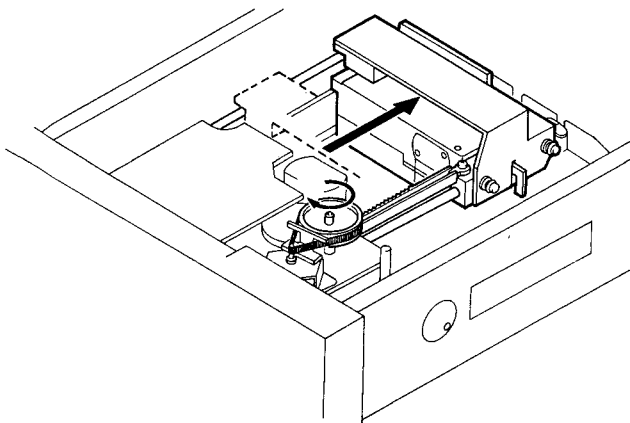

Fig. 2.1
- (1) Place the Compact Disc Player upside down on the work stand and remove the Bottom Cover by unfastening 10 screws.
- (2) Rotate the pulley of the Disc Mechanism Ass'y to move the Pickup in the direction of the arrow. See Fig. 2.1.